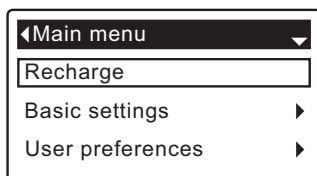

FIG. 23
During normal operation (status screens rolling), press the filter's SELECT (O) button to display the Main menu (See Figure 23). This menu and its subsidiary screens are used to control these operations: